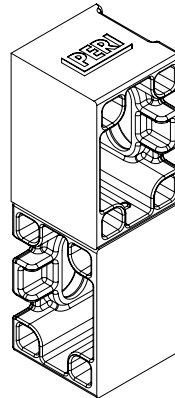

Fig. B5.10b
- external corners (Fig. B5.10b)